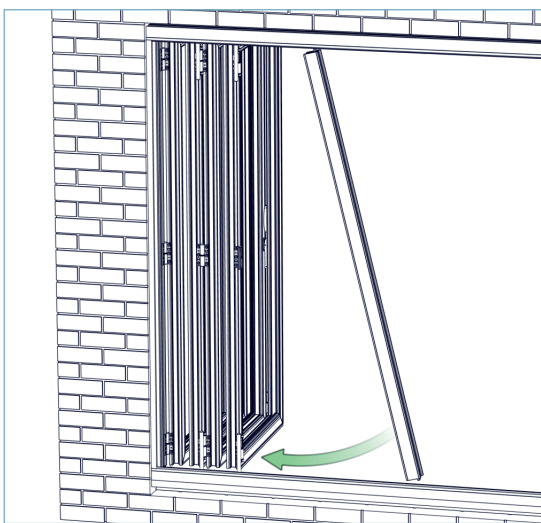

FIG 8A
- ▶ **8.3.** Position the mullion into the tracks and slide along to mate with the hinges and forks as shown in FIG 8A.